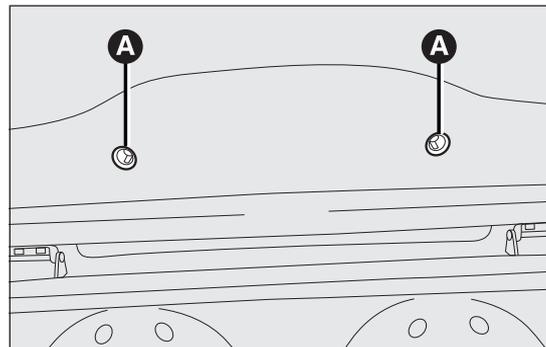

fig. 119
- remove the two guard caps and unscrew the two fastening screws A fig. 119;